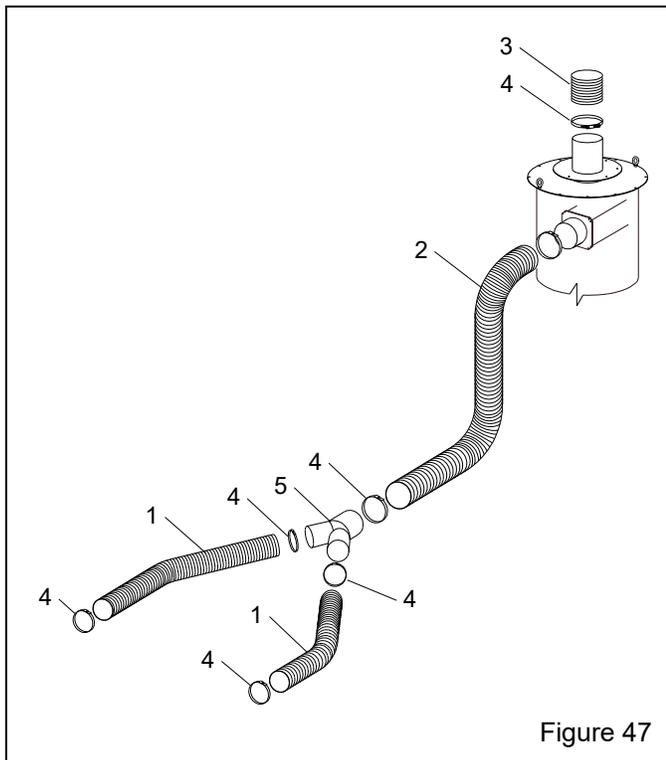

Figure 47
9.13 Flex Hose and Wye Adaptor, Figure 47